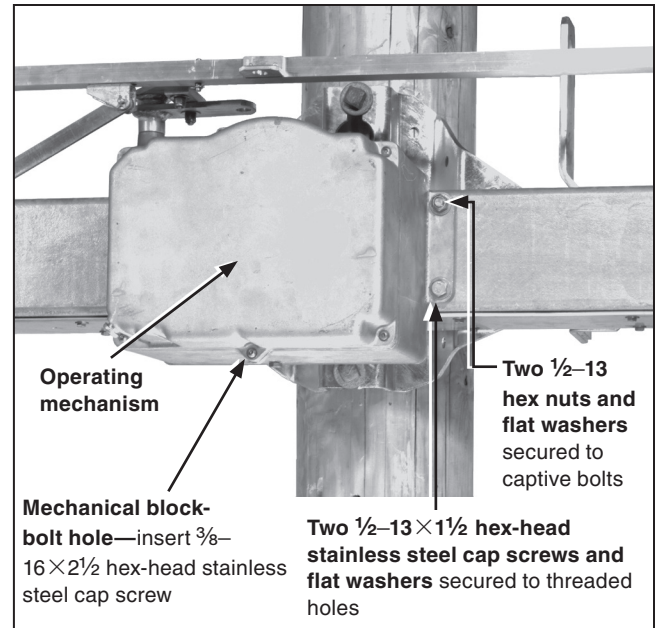

Figure 9. Installing the operating mechanism.
STEP 9. Position the replacement operating mechanism onto the captive bolts on the switch base. Make sure the drive linkage is positioned toward the connecting stud on the interphase linkage. Securely tighten $\frac{1}{2}$ -13 hex nuts and flat washers (provided with the replacement kit) onto the two captive bolts. Then, securely tighten the two $\frac{1}{2}$ -13 \times 1 $\frac{1}{2}$ hex-head stainless steel cap screws and flat washers saved from Step 5 into the threaded holes. See Figure 9.